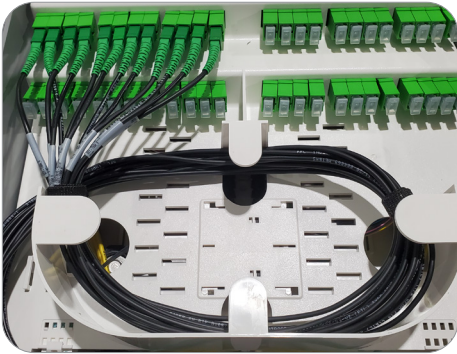

Figure 103
4. Continue to fully populate the rest of the drops, using Velcro to route and organize the drops (Figures 103 and 104).